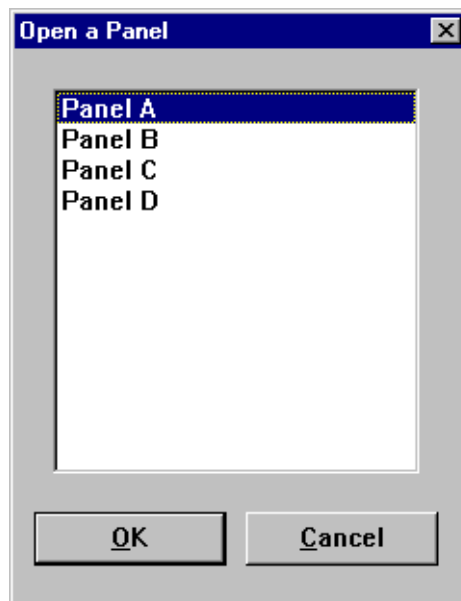

Figure 42. Open Panel dialog box
1. Choose **Window | Open Panel**. The Open a Panel dialog box appears (Figure 42).